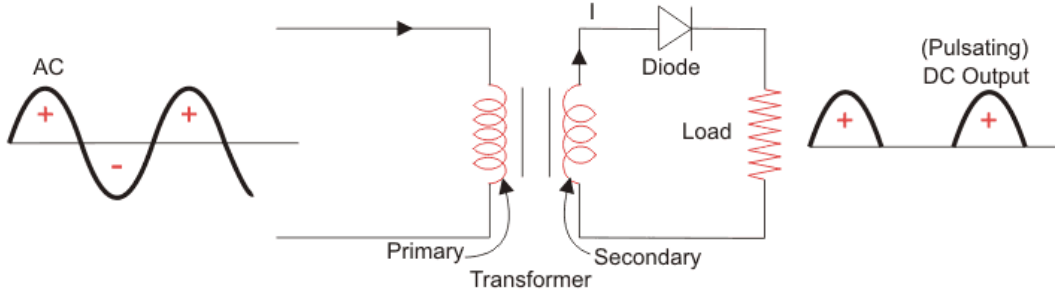

Figure 2: Half wave rectifier circuit diagram and waveform [electrical4u.com].
Figure 2 shows the input AC voltage waveform, the circuit diagram and the final output voltage waveform of a half wave rectifier. During the positive half cycle, the diode is forward biased making the current flow through the load resistor. While during the Negative half cycle the diode is reverse biased so it stops the current flow through the load resistor. Since current can not flow through the load during the negative half cycles, the output voltage is equal to zero.
Let r_f and R_L be the forward resistance and load resistance of the diode. The voltage appearing across the secondary of the power transformer is given by (1). The waveform diagram at the right side of the Figure 2 shows only a positive waveform at the output and a suppressed negative waveform. During the conduction period the instantaneous value of the current is given by the equation: